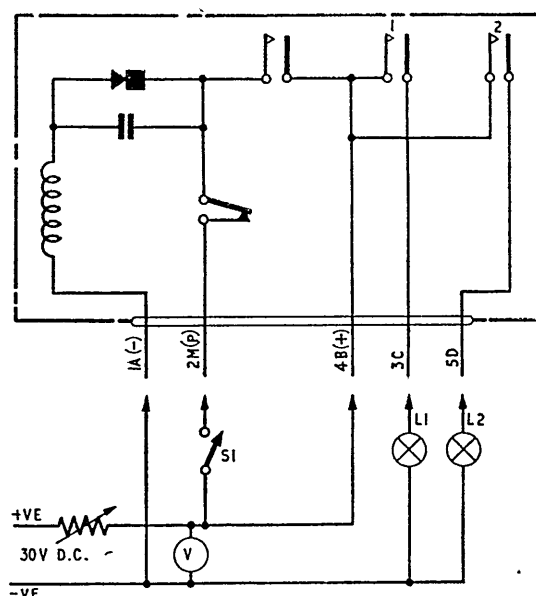

Fig. 1. Switch, Type D8404, circuit diagram and test circuit
1. This time delay switch has two pairs of circuit contacts, the circuit diagram (fig. 1) shows the switch internal wiring and the associated test circuit. The total motor run and circuit contact timing is detailed in para. 3.